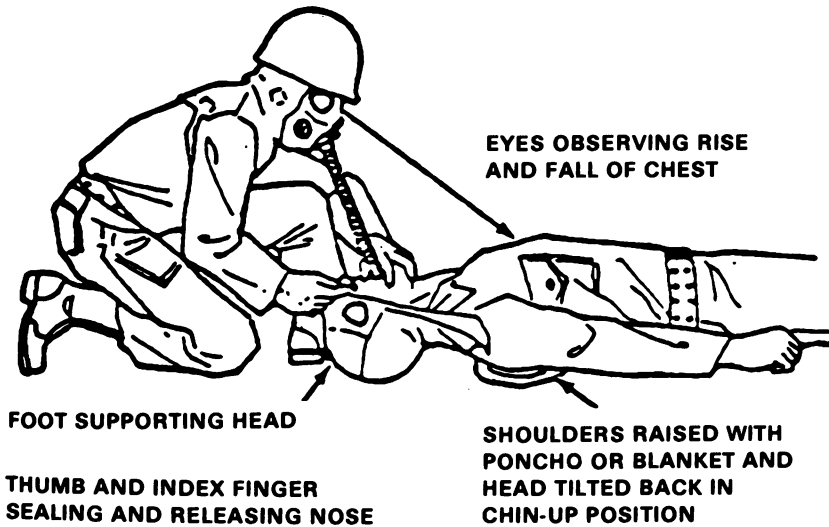

Figure 2.
Place soldier on his back raising his shoulders with a poncho, blanket, or something similar (fig 2).
Kneel at soldier's head on a blanket or other material so you will not contact the contaminated surface (fig 2).
10. Check for soldier's pulse (task 081-831-1002, fig 2).